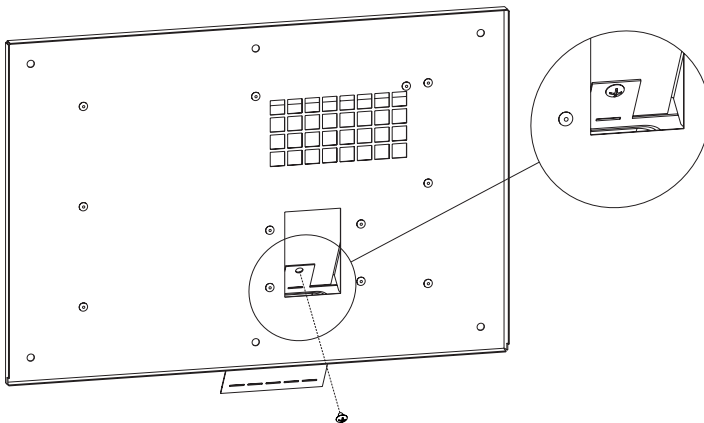

Figure 56
2. Turn fascia over and attach wind shield with (1) #8 X 1/4 inch screw, as shown in **Figures 56 and 57.**